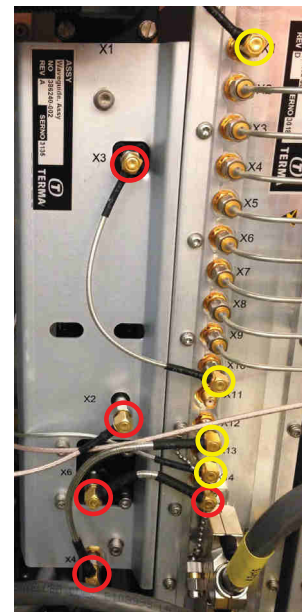

Fig. 10.34 Connectors
All these connections to be removed are shown with red circles on Fig. 10.34 \(p. 154\).
- 8 Loosen SMA connectors on RxTx marked with a yellow circle (X1, X10, X12, and X13) - see Fig. 10.34 \(p. 154\) and turn the cables upwards or downwards so the waveguide assy has free passage when it is taken out. For doing this the connectors should be loosened just a little bit. Use tools 13/14.